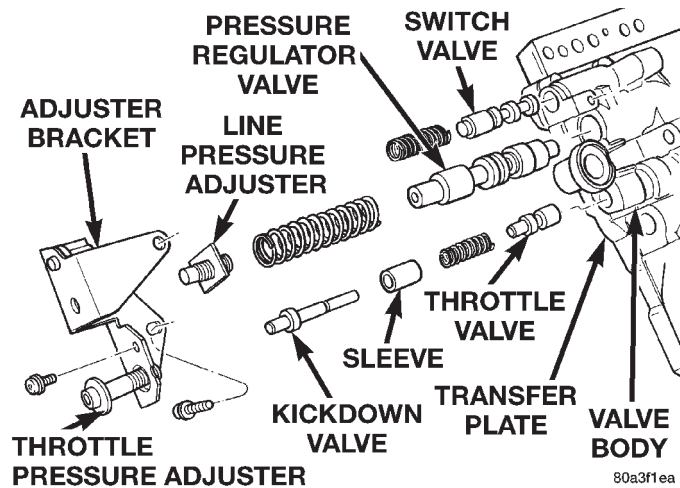

Fig. 40 Adjusting Screw Bracket, Springs, Valve Removal
- (1) Remove screws attaching adjusting screw bracket to valve body and transfer plate. Hold bracket firmly against spring force while removing last screw.
- (2) Remove adjusting screw bracket, line pressure adjusting screw (Fig. 40).
- (3) Remove switch valve and spring, pressure regulator valve and spring, kickdown valve and spring, and throttle valve from valve body (Fig. 40).